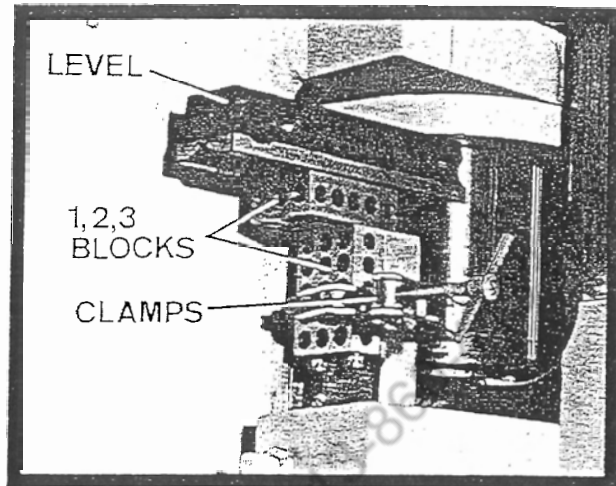

FIGURE 5
1. Clamp precision blocks (one two three) to the right hand gib surface and place a precision level on the blocks (See Figure 5). Lower the ram if there is insufficient gib surface to clamp the precision blocks.